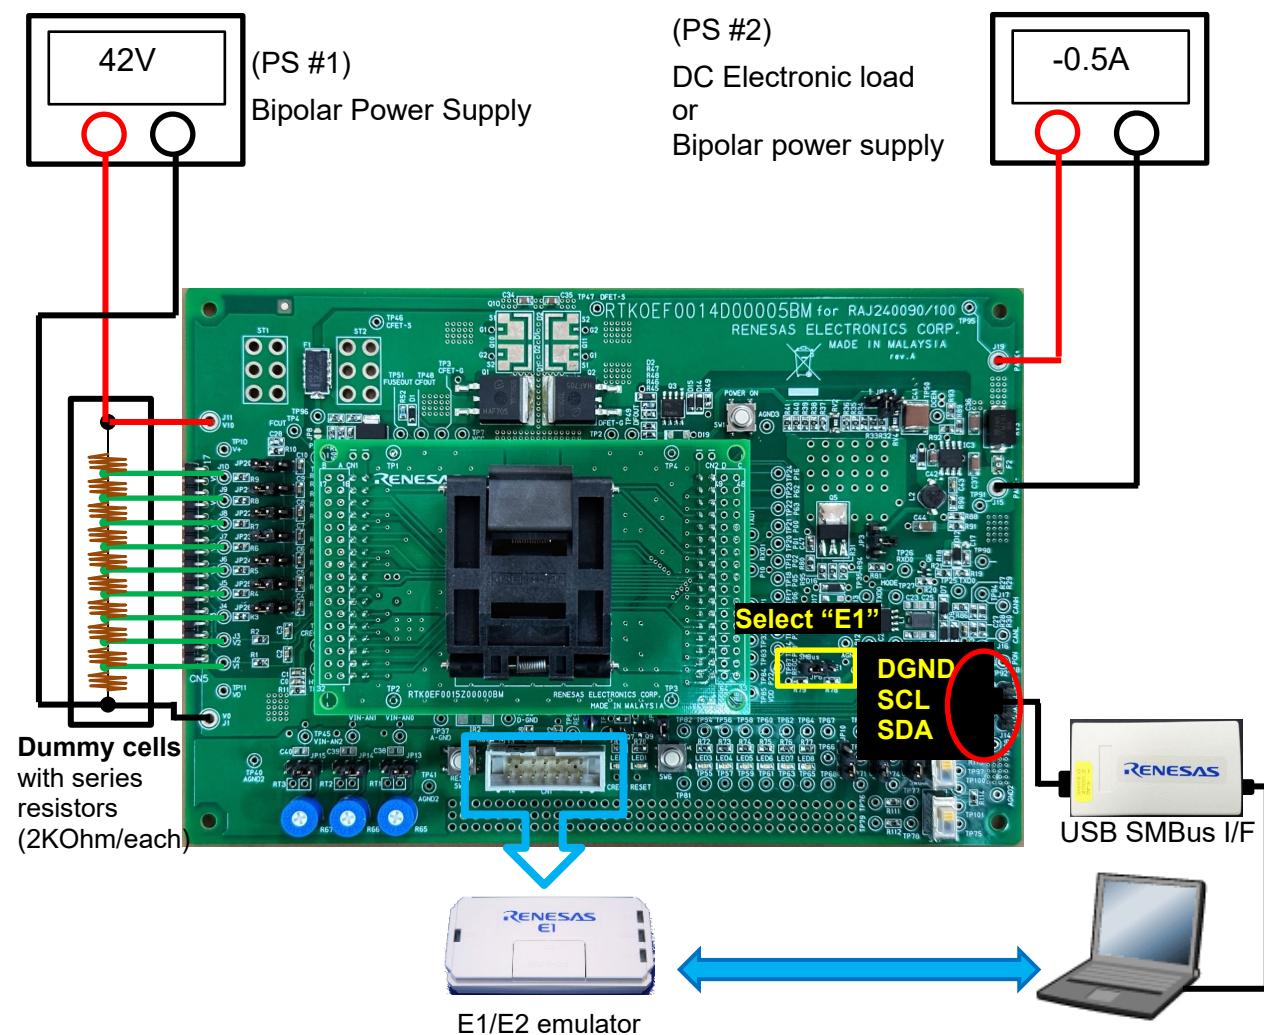

Figure 16 RAJ240090 / RAJ240100 EVM connection with E1/E2 emulator
Figure 16 shows an example of the EVM connection. In this example, the board is configured for 10 series cells configuration, JP6 is set to E1 pin, and the board is using Renesas E1/E2 emulator.
1. Connect each equipment based on Figure 16.